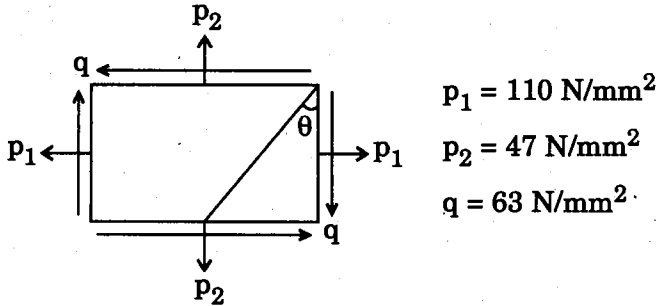

Figure 3
- (b) Determine the direction and magnitude of major principal stress and minor principal stress for the rectangular block shown in Figure 3.